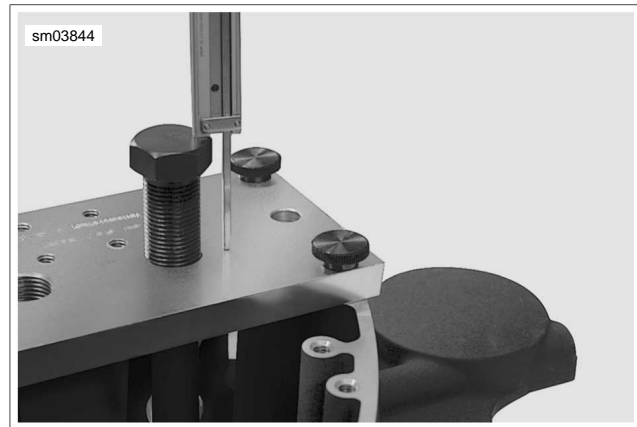

Figure 3-127. Measure from Top of Forcing Screw to Support Plate
10. See Figure 3-127. Using a dial caliper, measure from head (top) of installer forcing screw to support plate. Record this measurement for use in installing second needle bearing.